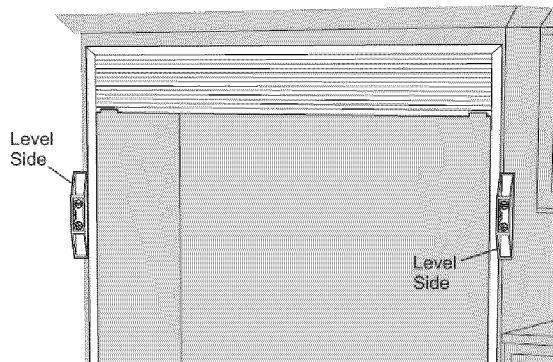

Figure 11
- Using a carpenter's level, check that each side is vertical. Shim as necessary (shims are not included). Next, secure top and bottom of each side trim to cabinetry using two 3/4" mounting screws (M). See Figure 11.